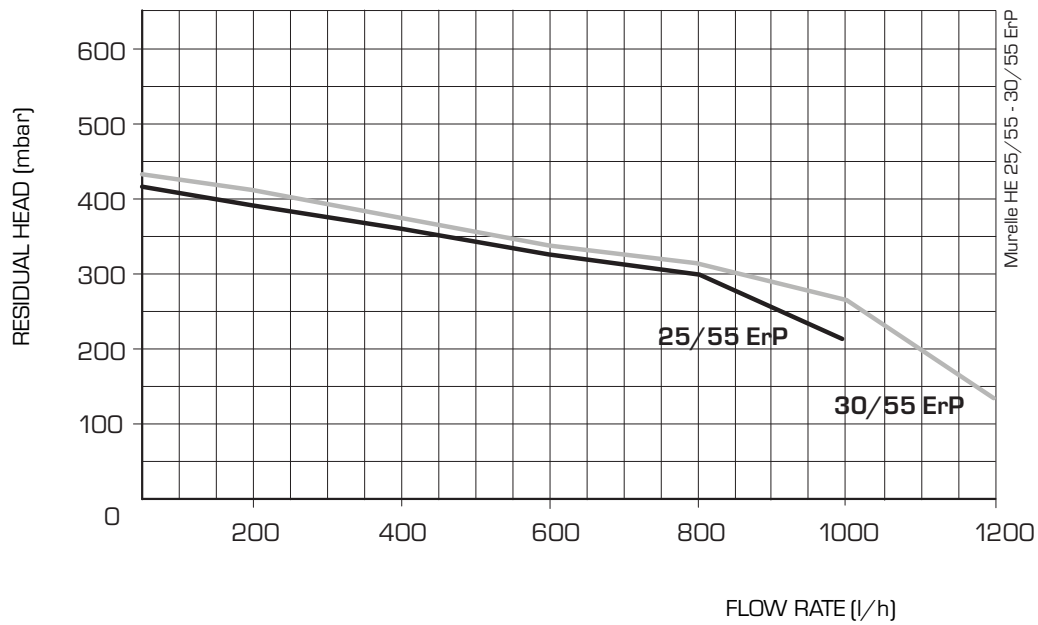

Fig. 14
3.9 HEAD AVAILABLE TO SYSTEM (fig. 14)
shown as a function of rate of flow in the graph in fig. 14.